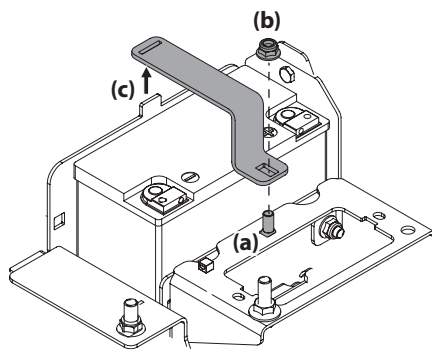

Figure 37
- Locate and hold the carriage bolt (a) at the front of the battery bracket (c) to prevent it from falling. See Figure 37.
- Remove the hex lock nut (b) securing the battery bracket (c) in place. Save the carriage bolt and hex lock nut for later reinstallation. See Figure 37.
- Lift the battery bracket (c) off of the tab at the left side of the battery compartment and save for later reinstallation. See Figure 37.